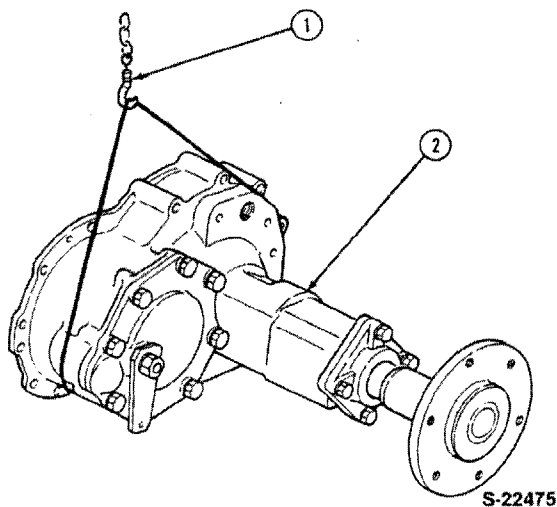

Figure 12
5. Attach a suitable overhead lifting device to the rear axle assembly, Figure 12, and remove the axle housing retaining bolts.